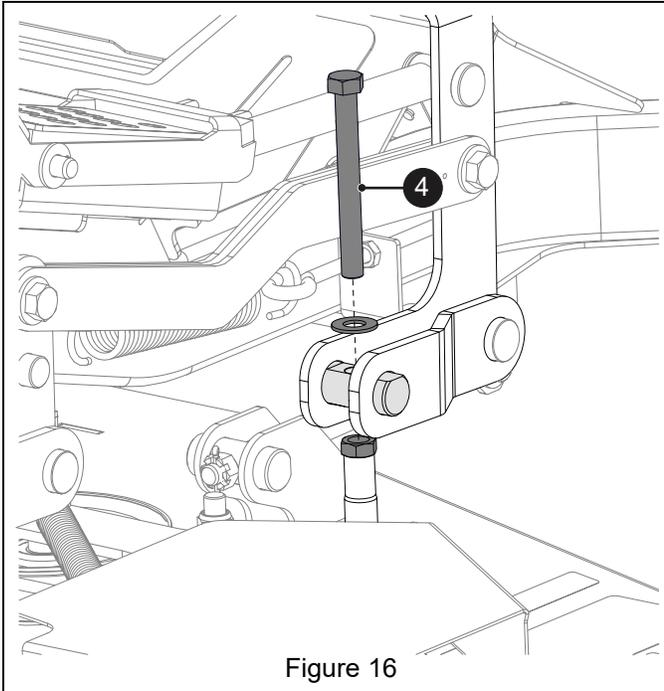

Figure 16
4. Position flat washer on deck lift pin and install one 1/2" x 4 1/2" hex bolt (item 4) through pin and into deck-lift link. Do not tighten jam nut. See Figure 16.